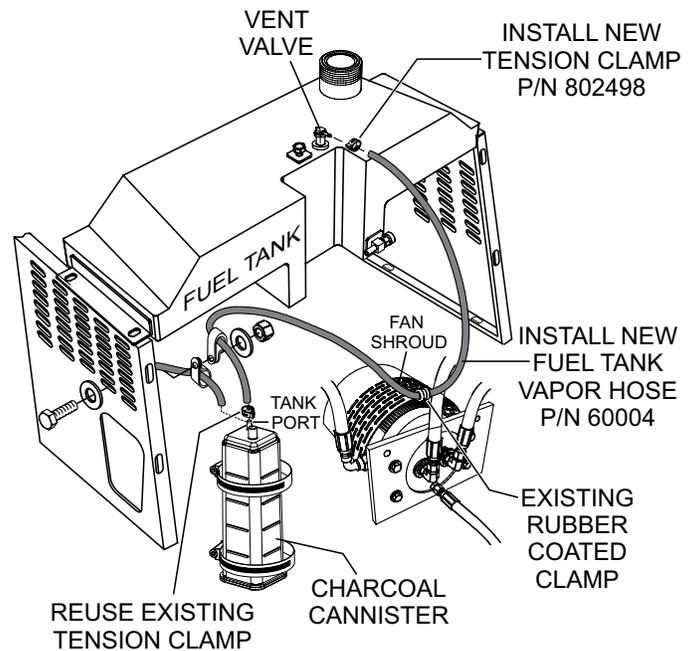

Figure 20. Fuel tank Vapor Hose Routing
4. Connect the new fuel tank vapor hose line (P/N 60004) to the tank port on the charcoal canister (Figure 20) using the tension clamp from the original discarded vapor hose.
6. Next, route fuel tank vapor hose thru existing rubber coated clamp on the fan guard (Figure 20).
7. Lastly, connect fuel tank vapor hose to the fuel tank vent valve (Figure 20) and secure with tension clamp (P/N 802498).